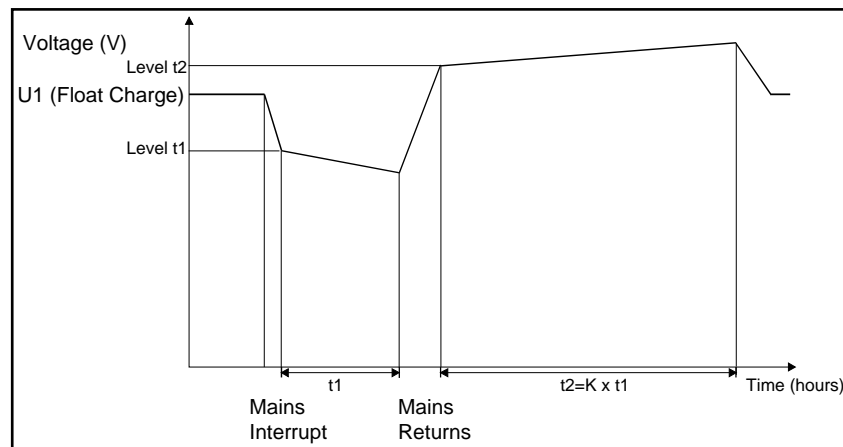

Figure 4.8 - Boost charging
3. Automatic boost charging - when the battery voltage drops below LEVEL t1 during a mains failure, timer t1 is started. When the mains is restored, timer t1 is stopped and the system starts automatic boost charging for time $t2 = k \times t1$ (k is an adjustable constant). Timer t2 starts counting when the battery voltage reaches LEVEL t2, see Figure 4.8.